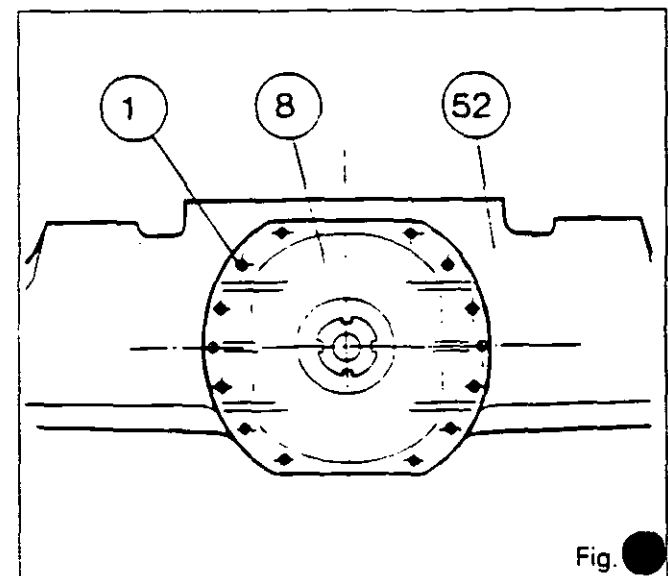

Fig. 6
16. Remove the bolts (1). Detach and remove the differential case assembly (8) (Fig. 6).